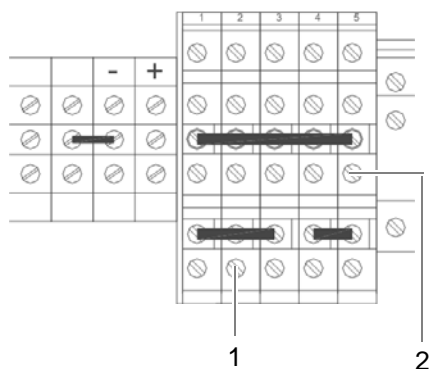

Figure 5.7 Terminals of the terminal block
Figure 5.7 shows the terminal block to which the wires of one of the power supply cables must be connected. The following table describes these indicators in detail.
- ➔ Connect the two wires of the voltage supply cable appropriately to the terminals of the terminal block, see Figure 5.7 on page 99.